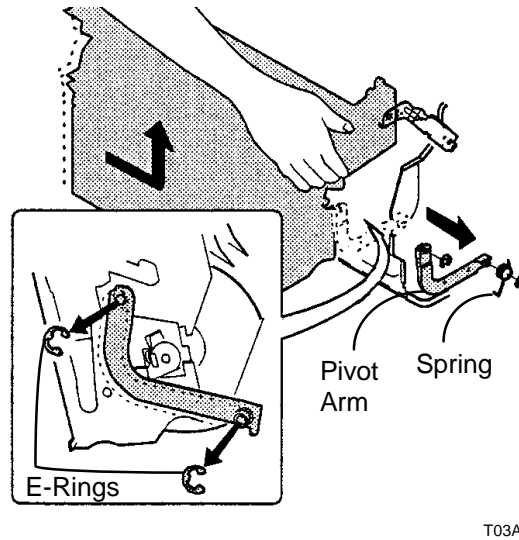

Figure 4. Removing the Right Pivot Arm
6. (Figure 4): Remove the Right Pivot Arm: